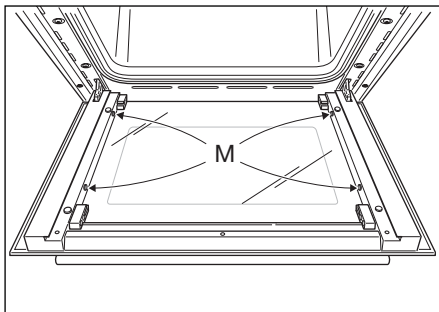

Fig.53a
- Check that the four rubber pads are in place ("M" in Fig. 53a).